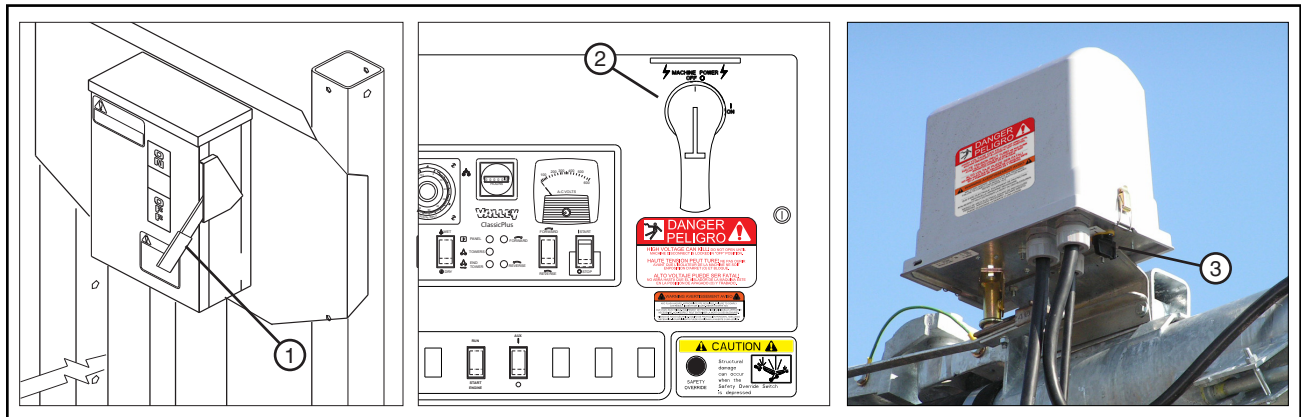

Figure 29-1 1. Main Service Disconnect Switch
- Main Service Disconnect Switch from public power to the control panel. See Figure 29-1.
- Control Panel Main Disconnect Switch. See Figure 29-1.
- Any Tower Box Disconnect Switch. See Figure 29-1.